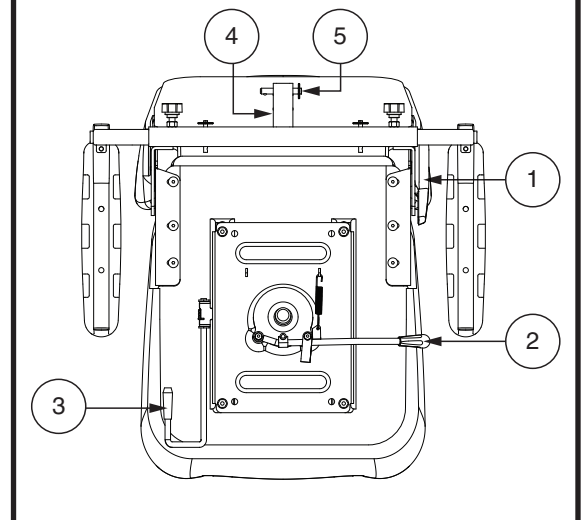

Figure 20. Seat Adjustments – Style B
If your scooter is equipped with a reclining seatback, you can adjust the seatback angle with the seatback adjustment lever. See **figure 20**.
1. Move the seat sliding lever (located at the lower left side of the seat) outward. See **figure 20**.
Armrest angle of your scooter can be adjusted upwards or downwards by turning the adjustment. See **figure 20**.
The rear-mounted accessory bracket allows you to attach a personal accessory such as a basket, walker holder, or oxygen tank to the back of your scooter. Utilize the detent pin to securely mount your item to the accessory bracket. See **figure 20**. See your authorized Provider for details.